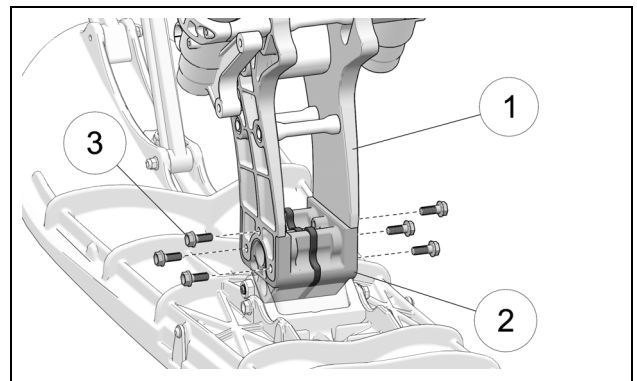

Figure 15
- Align and position spindle base (1) over ski mount block (2). Secure assembly using the provided M8x20mm assembly bolts (3). Tighten bolts to 30 Nm (22 lb-ft). See Figure 15.